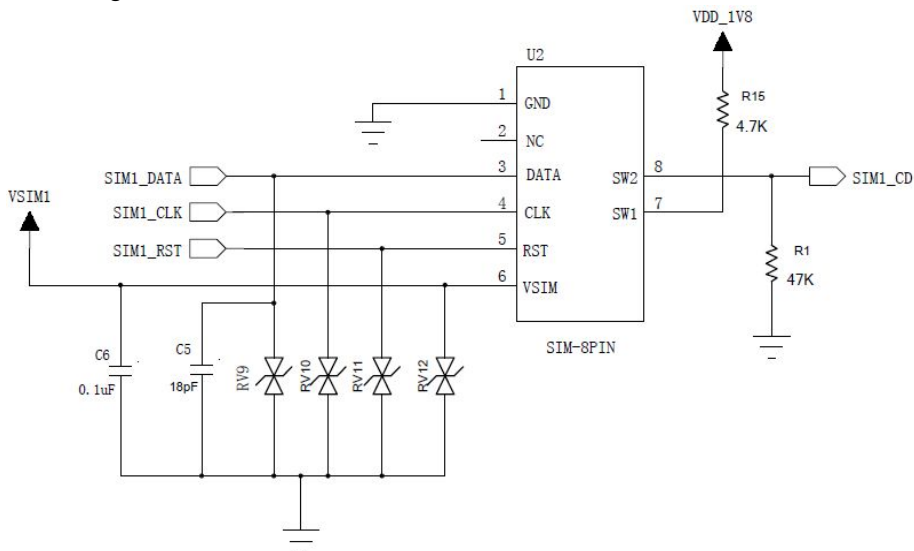

Figure 5-8 Reference Design of “Normally Closed” SIM Card Interface
- For “Normal opened” SIM card, as shown in the figure5-8, SIM1\_CD signal line is connected to U2’s